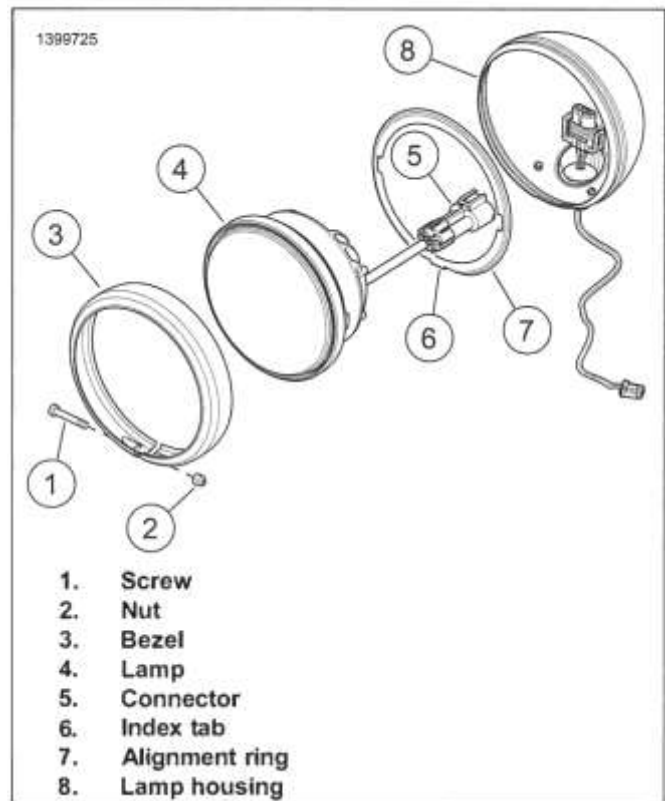

Figure 8-51. Auxiliary Lamp (LED shown)
- See Figure 8-51. Loosen screw (1) and nut (2). Pull bezel (3) from lip of lamp housing (8).
- Disconnect auxiliary/fog lamp connector (5). Remove lamp (4).
- Remove alignment ring (7).
- See Figure 8-51. Place alignment ring (7) on back of lamp (4) with index tab (6) facing away from lamp.
- Mate connector (5).
- Engage alignment ring (7) index tab (6) in slot at bottom of lamp housing.
- Install bezel (3) on lamp housing with screw (1) and nut (2) centered at bottom. Tighten.